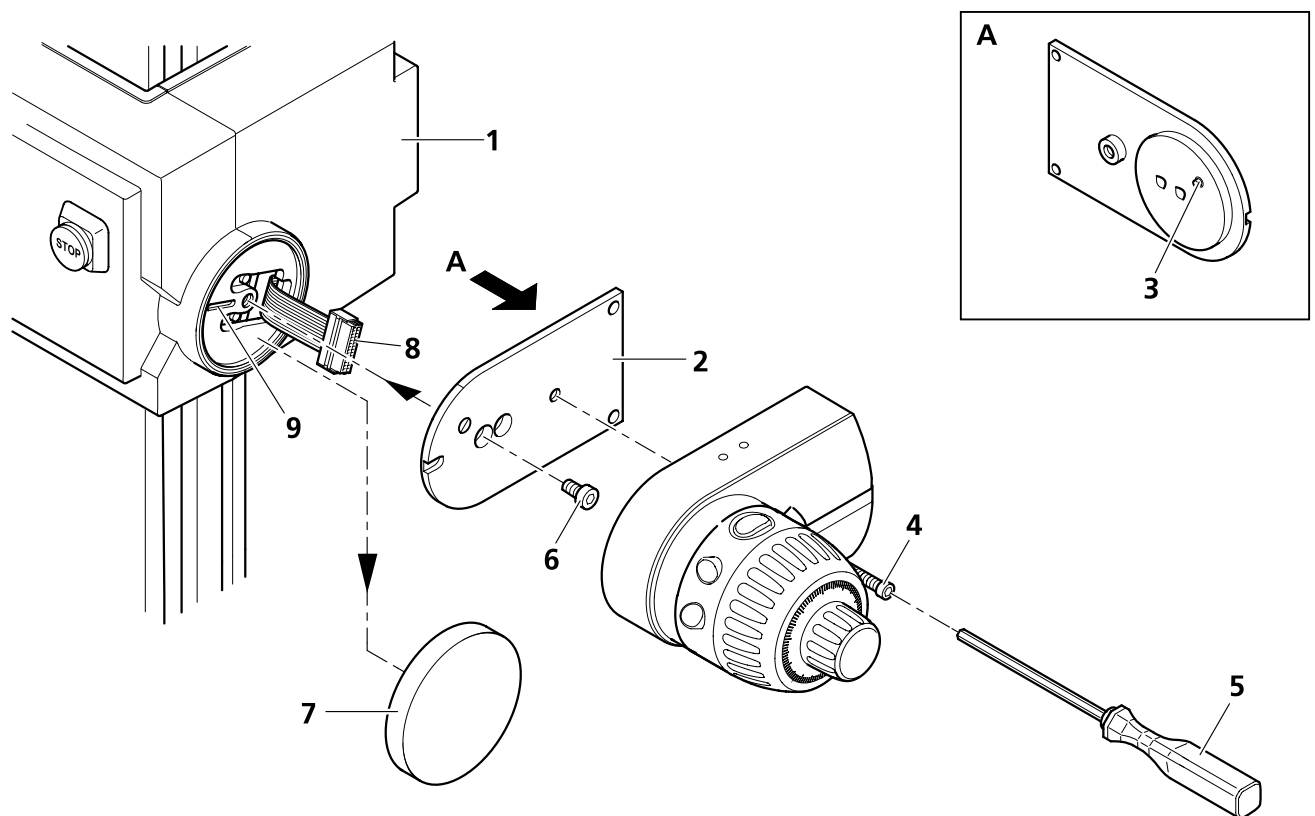
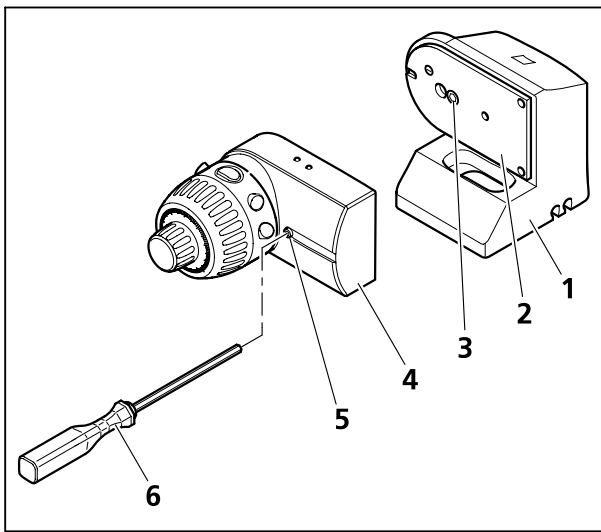

Fig. 28 Mounting the MARC control unit (e.g.: to the focusing drive)
Fig. 29 Mounting the control unit MARC to the table-top base
MARC is a component used to control motor focus and zoom, respectively, and may be mounted to the focusing drive (Fig. 28/1), the microscope body (only on SteREO Discovery.V12/V20) or the table-top base (Fig. 29/1).
- Remove the mounting plate (Fig. 28/2) from the MARC unit after loosening the Allan screw (SW 3; Fig. 28/4).
- Remove the cover (Fig. 28/7) from the focusing drive (Fig. 28/1) or from the microscope body (only on SteREO Discovery.V12/V20).
- Pull the connecting cable (Fig. 28/8) fully back into the casing without folding it.
- Bolt the mounting plate (Fig. 28/2) with the screw (Fig. 28/6) to the flange of the focusing drive (Fig. 28/1) (or the microscope body), putting the screw through the left hole of the mounting plate. Make sure that the orientation pin (Fig. 28/3) of the mounting plate engages with the groove (Fig. 28/9) provided for this purpose.
- Bolt MARC by means of the Allan screw (SW 3; Fig. 28/4) to the fixed mounting plate (Fig. 28/2) using the ball-headed screwdriver (Fig. 28/5).
- Bolt the mounting plate (Fig. 29/2) with the screw (Fig. 29/3) to the table-top base (Fig. 29/1), putting the screw through the right hole of the mounting plate.
- Bolt MARC (Fig. 29/4) with the Allan screw (SW 3; Fig. 29/5) to the fixed mounting plate using the ball-headed screwdriver (Fig. 29/6).